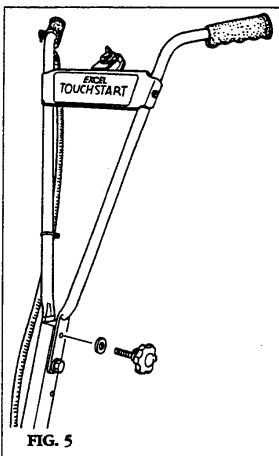

FIG. 5
- (FIG. 5) Extend handles to operating position. Line up lock bolt holes and install lock bolt and washer securely.